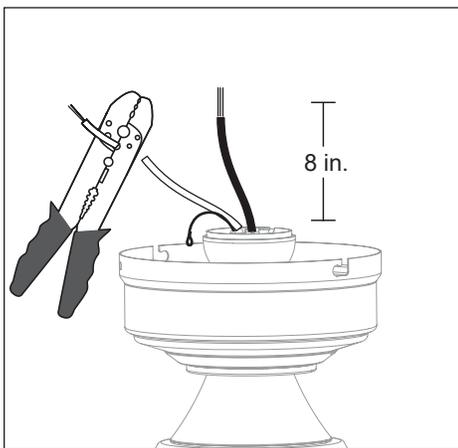

Figure 3.4
4. Depending on the length of downrod you use, you may want to trim the fan wires to simplify wiring. After pulling the wires all the way through the downrod, measure 8 inches of wire. Cut off the excess wire using wire cutters (not included). **WARNING:** Do NOT cut braided cable. Then strip 1/2 inch of insulation from the end of each wire strand (Figure 3.4).